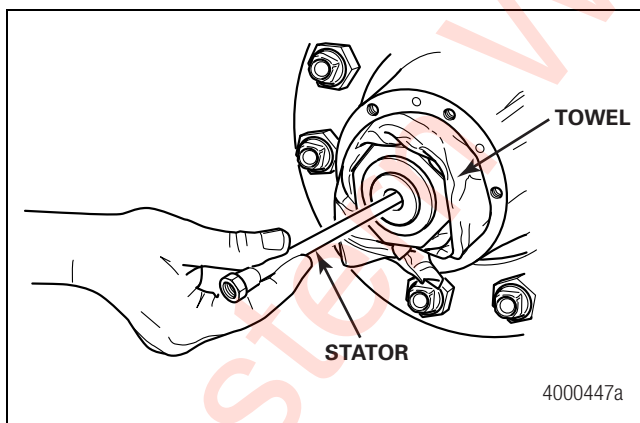

Figure 2.40
1. Hand-tighten the stator into the spindle hole. Figure 2.40.